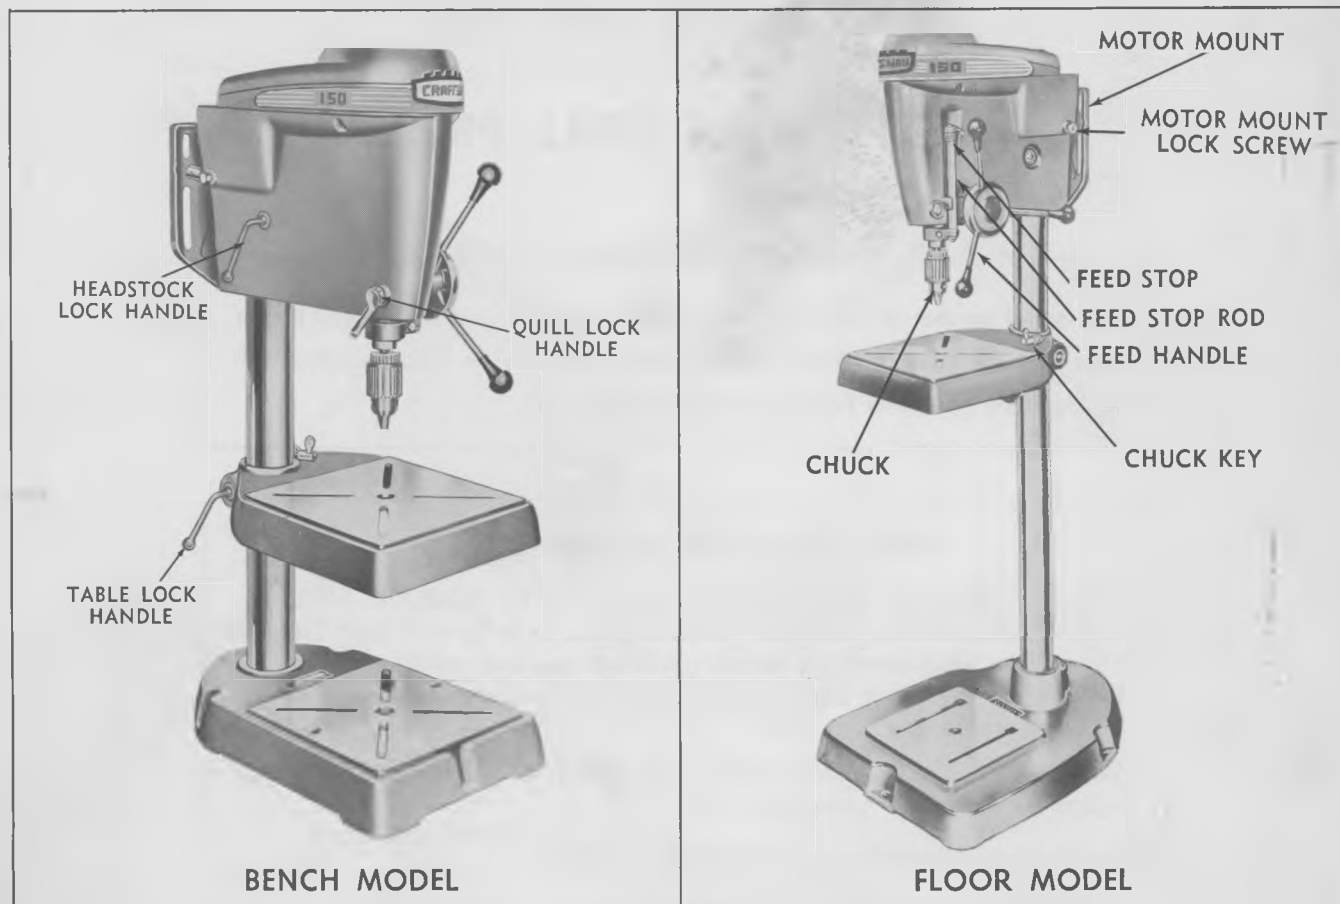

FIGURE 1
Place feed handles on tool as shown in Fig. 1.
Place the chuck key in the hole provided at side of table support, see Fig. 1.
To install motor loosen the **motor mount lock screws**, Fig. 1, until the **motor mount** may be removed. Fasten the motor to the motor mount with the bolts, nuts, and washers provided so that when motor mount is reinstalled on the tool, the larger portion of the mount will be down. For convenience, if your motor has a switch, and rotation will be correct, place motor on motor mount so that the switch is on the left side. **Direction of rotation of the spindle must be clockwise when viewed from pulley end of spindle.**
To change the locked position of table lock handle or headstock lock handle (Fig. 1), remove handle and rotate table lock, item 66, or headstock lock, item 51, 180°. Re-insert and tighten lock handle.
The **Quill Lock Handle**, (Fig. 1) for greatest ease of operation should point **down** when **locked**. To change the position of the handle, loosen the set screw, remove handle from hex head screw and rotate to correct position. Replace handle and tighten set screw.